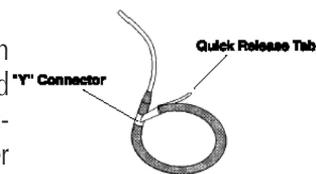

Fig. 5-1A
2. With one hand, grasp the loop at the “Y” connector. (See Figure 5-1A)